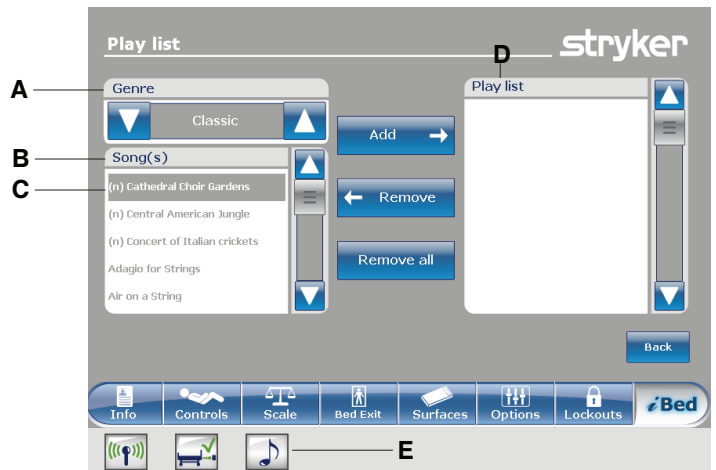

Figure 100 – Play list
Tap the up and down arrows to select a genre (A) (Figure 100).